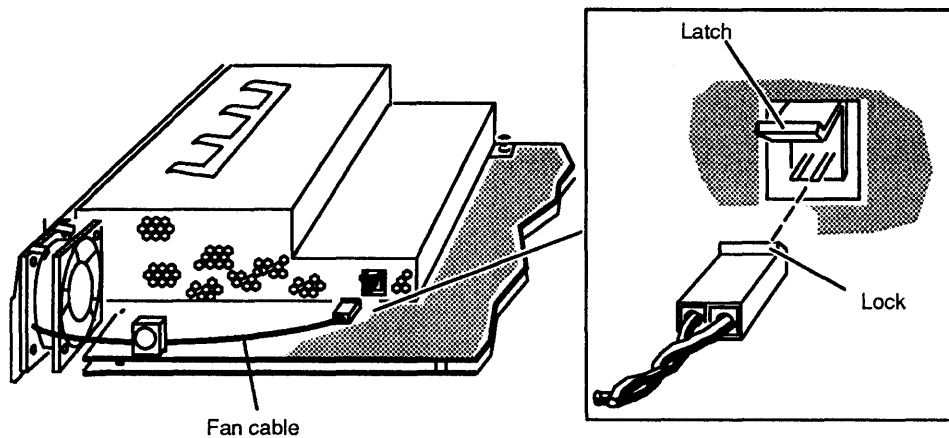

Figure 4-12 Connecting the Fan Cable
7. Connect the fan cable to the power supply, as shown in Figure 4-12.